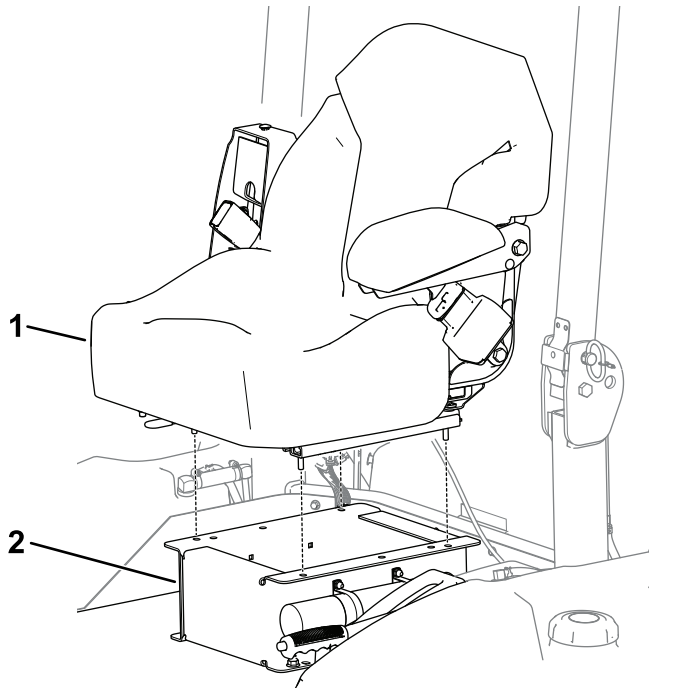

Figure 4
- Groundsmaster 3200 or 3300 machines shown in Figure 4